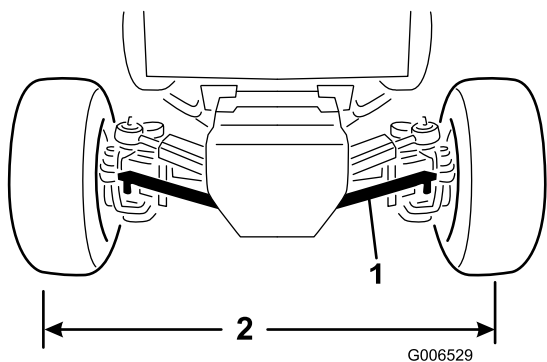

Figure 68
1. Remove cotter pin and castle nut securing 1 tie-rod ball joint to the mounting bracket on the axle and separate the ball joint from the axle (Figure 68).
3. Rotate the tie-rod ball joint in or out until the center-to-center distance at front and back of the rear wheels is the same (Figure 68).